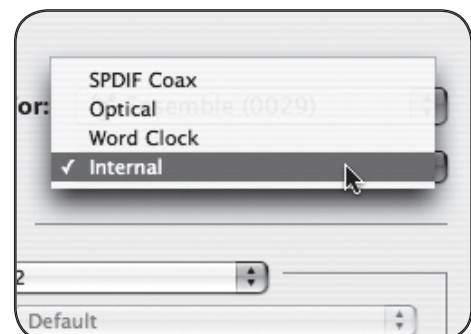

figure 19
- c. In the AMS **Clock Source** field, set the source of one Ensemble to **Internal**; the clock source for other connected Ensembles should automatically change to **Word Clock**. (figure 19)